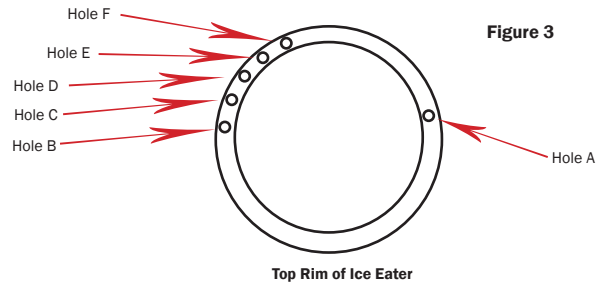

Figure 3
**NOTE:** For straight hanging, use top rim holes A & B shown in figure 3.